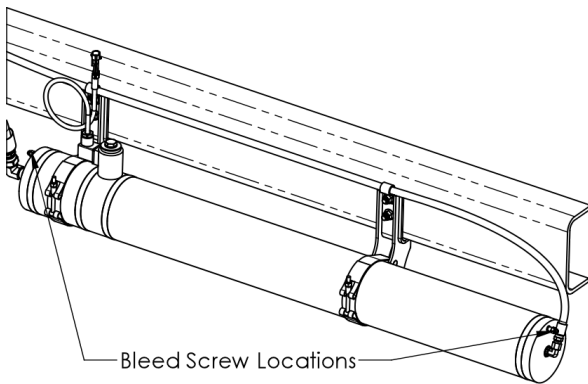

Figure 39. Bleed screw locations DS135RS2-DM.
7. Secure the hose using the included hose clamps and fasteners. Refer to Figure 39.